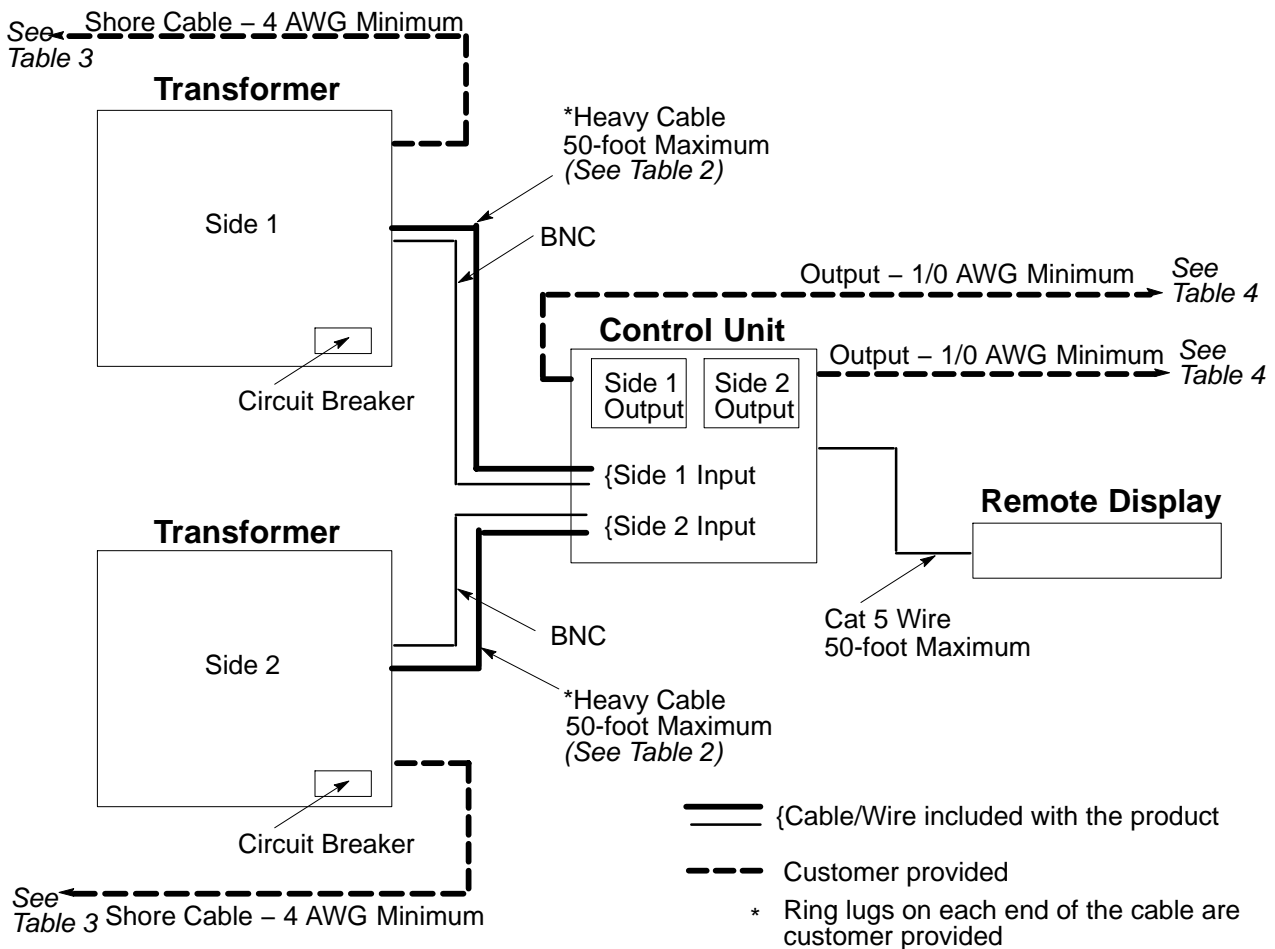

Figure 5. Typical Wiring Connections
While making connections to the PM3–100™ reference Figure 5.
8.	Connect all wiring as shown in Figure 5 and described in Table 2 through Table 4.
Connect the BNC-BNC cables from the transformers to the control unit (see Figure 5).